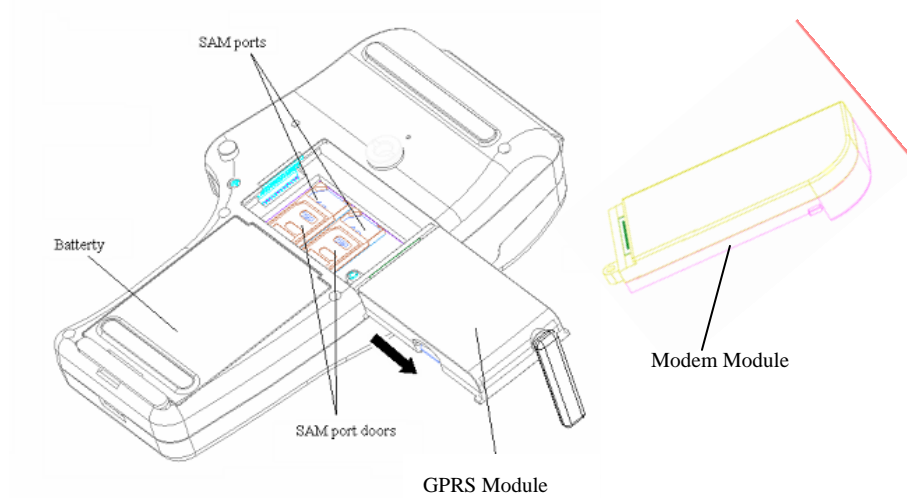

Figure 5 Installing the Module
2. Turn the terminal over (Figure 5).